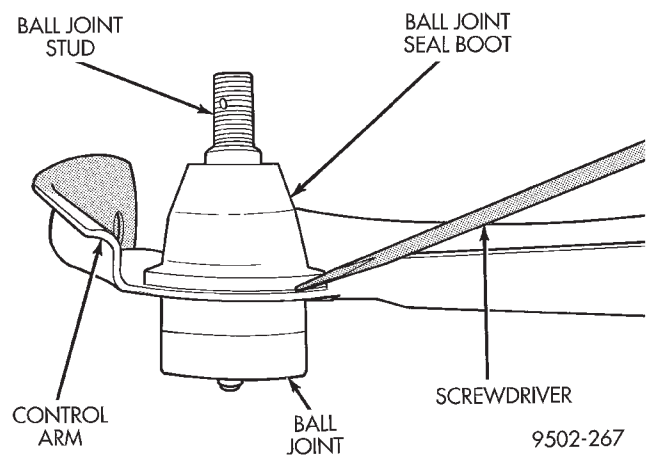

Fig. 113 Seal Boot Removal From Ball Joint
(1) Using a screw driver or other suitable tool, pry seal boot off of the ball joint assembly (Fig. 113).